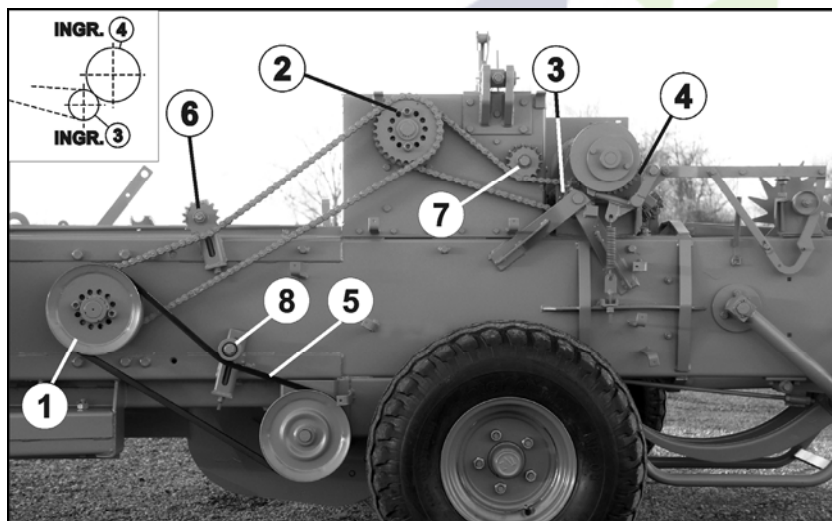

Fig. 12
- Linking is carried out by means of the gear chain no. 1 Fig. 12 with the gear driving the forks of the double gear no. 2 Fig. 12, the gear no. 1 Fig. 12 being still idle on its own axis.
- The truck is put forward and the crank of the 1st fork is placed so has to have a distance from the truck head spur of approximately 65÷95 mm if the fork is mounted with its side bent towards the compression chamber or approximately 45÷65 mm if the fork is mounted with its side perpendicular to the compression chamber (see Fig. 12 bis). In these conditions, the gear no. 1 Fig. 12 becomes integral with its axis by means of the special socket head screws. The system of opposite multi-hole flanges makes it possible to lock the gear in the required position with a minimum deviation.
Fig. 12 bis